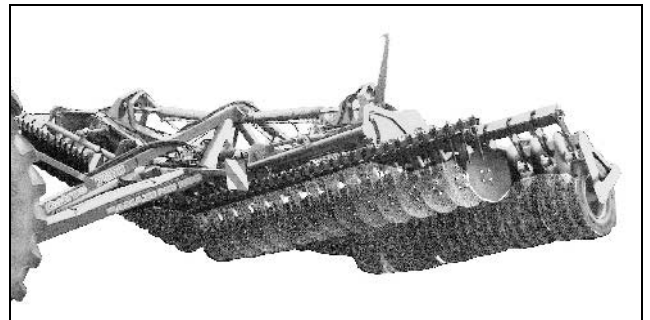

Fig. 22
- Fold in the implement. (Fig. 22)